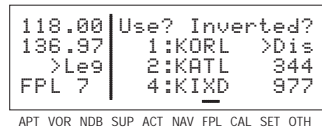

Figure 4-26
4. Press **ENT** to load the active flight plan into this numbered flight plan (figure 4-26).